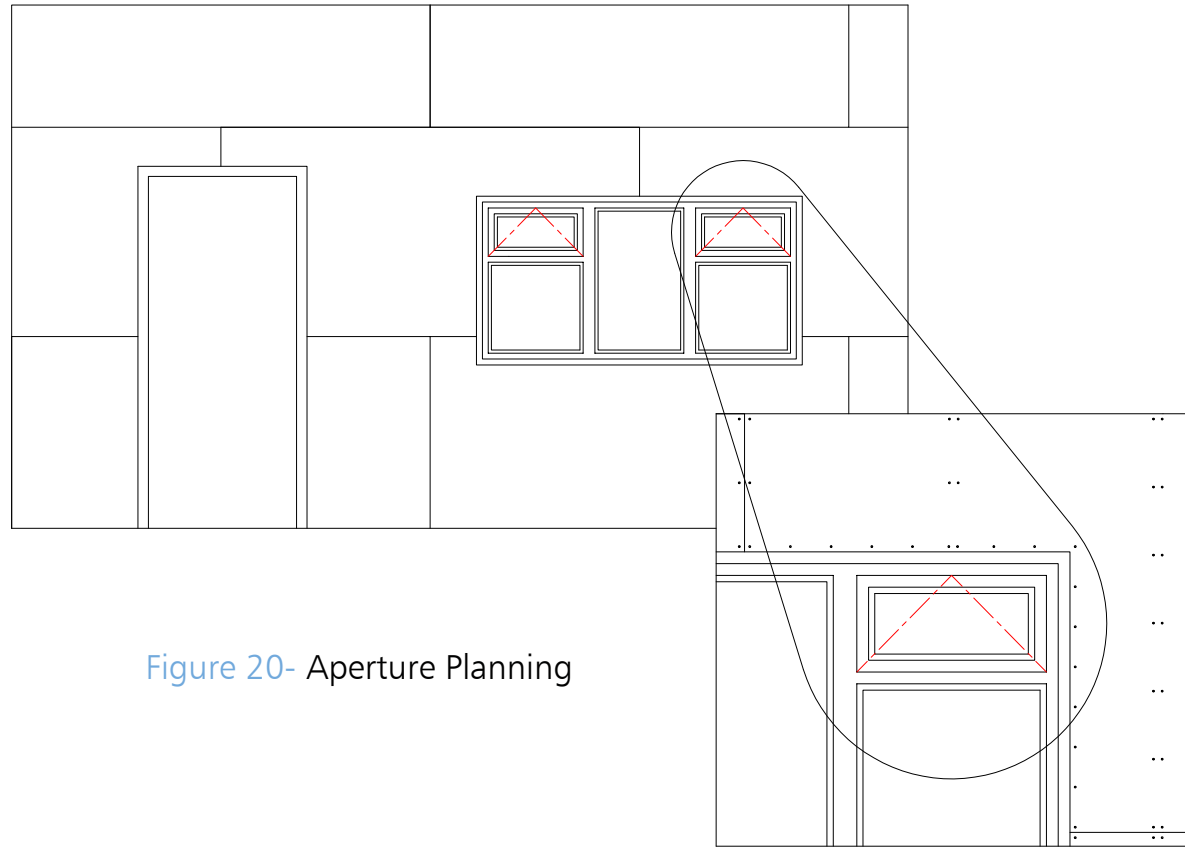

Figure 20- Aperture Planning
- 1 ProBoard fixed to Helping Hand brackets paying close attention to layout of boards (see figure 20)